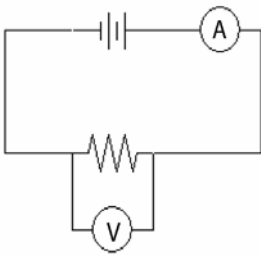

**Figure 9a Circuit schematic with ammeter**
2. **Include an ammeter in the circuit to measure current.** Attach a single wire to the “COM” input of your ammeter in this example, this is the purple wire. Identify the element in your circuit through which the desired current is flowing (in this case the resistor). Unplug wire (or wires) leading into one end of that element and plug all of them into either the 300mA or 10A input of your ammeter, depending of the size of the current you are measuring. In this example, there is only one wire leading to the resistor (the green wire) and we are using the 300mA setting of the ammeter. Plug the free end of the purple wire into the plug on the breadboard where you removed the circuit’s wire (or wires) – i.e. the place where the green wire was connected in Figure 8b. You have now forced all of the current carried by the wire (or wires) to go through the ammeter in addition to the circuit element of interest. The ammeter is now properly connected in series with the resistor. Figures 9a (schematically) and 9b (in practice) below show our simple circuit with a power supply, a single resistor and an ammeter.